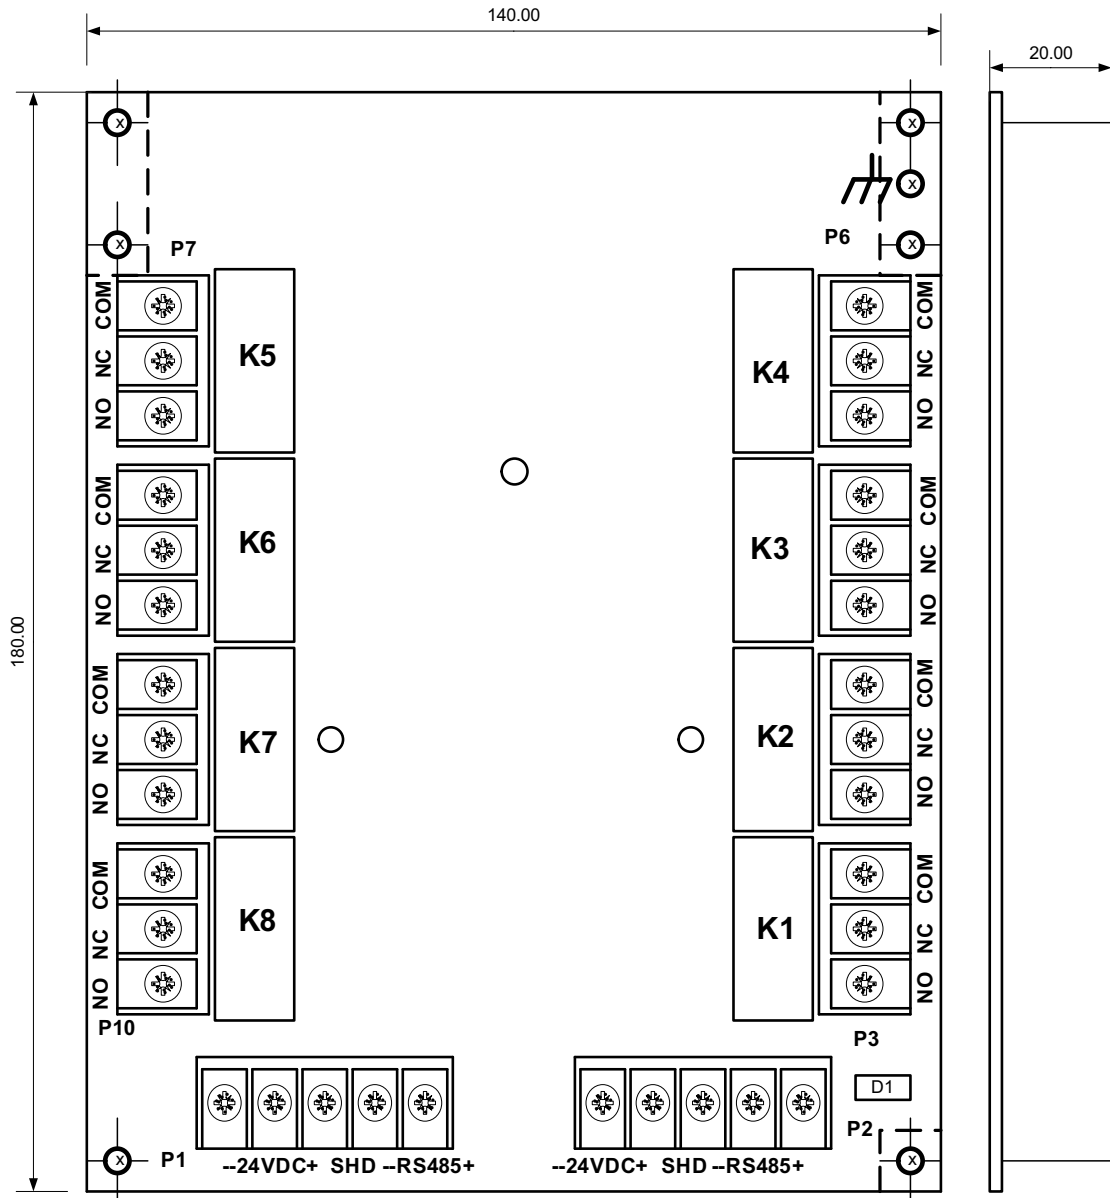

Fig. 1 SRM image diagram
The SRM module includes eight programmable relays (dry contact – form C). The SRM module image diagram is shown in the Fig.1. SRM is connected to the Host Panel or to the Local Panel by RS-485. Up to 8 SRM modules may be connected to the one Host or Local panel. SRM may be mounted in the Main Cabinet or a Separated Cabinet (SC). The AC2 Model YD9025 cabinet, which is produced by SAE Company (www.1sae.com), is used for remote SRM mounting.